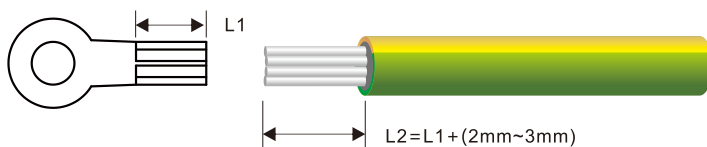

Figure 5.1 Stripped length (unit: mm)
Step 1 Remove an appropriate length of the insulation layer from the PGND cable using a wire Stripper; the length should be 2mm~3mm longer than OT terminal's crimping end, as shown in Figure 5.1.